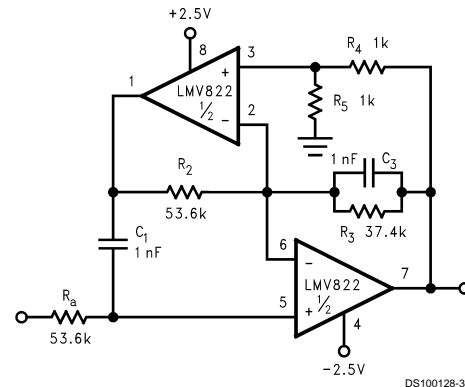
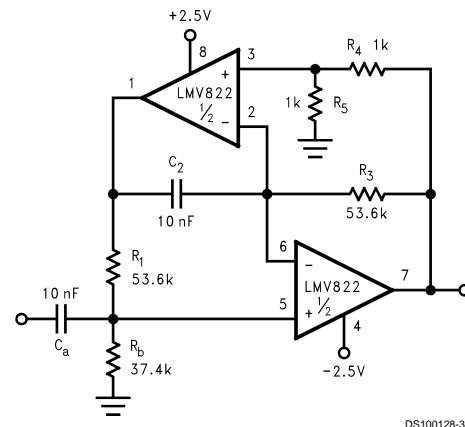
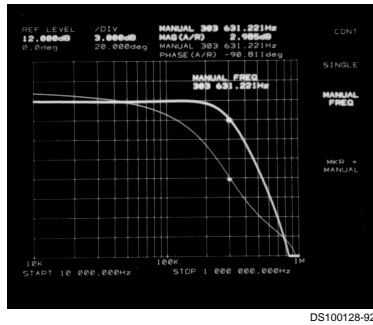

FIGURE 10. Dual Amplifier, 3 kHz Low-Pass Active Filter with a Butterworth Response and a Pass Band Gain of Times Two
FIGURE 11. Dual Amplifier, 300 Hz High-Pass Active Filter with a Butterworth Response and a Pass Band Gain of Times Two
FIGURE 12. 300 kHz, Low-Pass Filter, Butterworth Response as Measured by the HP3577A Network Analyzer
The LMV822/24 bring economy and performance to DAAFs. The low-pass and the high-pass filters of Figure 10 and Figure 11 (respectively), offer one key feature: excellent sensitivity performance. Good sensitivity is when deviations in component values cause relatively small deviations in a filter's parameter such as cutoff frequency ( $F_c$ ). Single amplifier active filters like the Sallen-Key provide relatively poor sensitivity performance that sometimes cause problems for high production runs; their parameters are much more likely to deviate out of specification than a DAAF would. The DAAFs of Figure 10 and Figure 11 are well suited for high volume production.
Single Amplifier versions require a large open-loop to closed-loop gain ratio - approximately 50 to 1, at the  $F_c$  of the filter response. *Figure 12* shows an impressive photograph of a network analyzer measurement (hp3577A). The measurement was taken from a 300kHz version of *Figure 10*. At 300 kHz, the open-loop to closed-loop gain ratio @  $F_c$  is about 5 to 1. This is 10 times lower than the 50 to 1 "rule of thumb" for Single Amplifier Active Filters.
In addition to performance, DAAFs are relatively easy to design and implement. The design equations for the low-pass and high-pass DAAFs are shown below. The first two equations calculate the  $F_c$  and the circuit Quality Factor (Q) for the LPF (*Figure 10*). The second two equations calculate the  $F_c$  and Q for the HPF (*Figure 11*).
To simplify the design process, certain components are set equal to each other. Refer to *Figure 10* and *Figure 11*. These equal component values help to simplify the design equations as follows:
To illustrate the design process/implementation, a 3 kHz, Butterworth response, low-pass filter DAAF (*Figure 10*) is designed as follows: